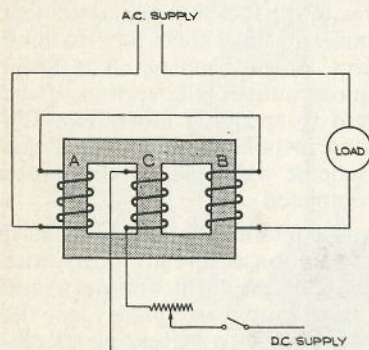

Fig. 1
Fig. 1 shows a wiring diagram for a Choke Dimmer in its simplest form and incorporating certain of the defects referred to above. (For the purposes of simplicity the refinements used on the Strand Board have been omitted.) The magnetic element has three paths, A, B and C as shown. The coils on paths A and B are connected together in series with one another and through the lighting load to the A.C. supply. Path C is connected to a D.C. supply through the miniature circuit dimmer and switch. By varying the D.C. in coil C, a variation in the load current flowing through coils A and B is produced. When the D.C. flowing through the coil at C is at a maximum, this coil produces its maximum magnetic saturation effect on the iron core which prevents the A.C. in coils A and B from inducing any appreciable "backward" voltage, and the lighting load is therefore at maximum brilliance. When, on the other hand the D.C. is at a minimum, coil C has no saturation effect and the A.C. passing through coils A and B induces sufficient voltage to choke back the current to a minimum, and the lamp load does not light.
- (c) With the ordinary (i.e. non-Strand) circuit as shown in Fig. 1, when the lights are out some A.C. is still flowing. Further, as can also be seen from Fig. 1, a lighting point which is apparently "off" is still connected to the mains and can give an unpleasant shock to the unwary. Both these defects are, however, obviated in the Strand Board.